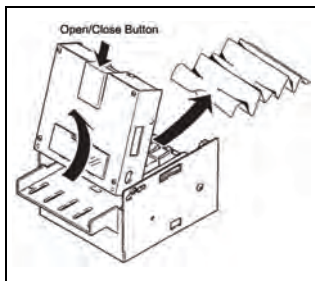

Figure A-1 Opening the EBA Bill Path
1. Push the Open/Close Button located on the upper scanning unit forward and lift the unit up (See Figure A-1)